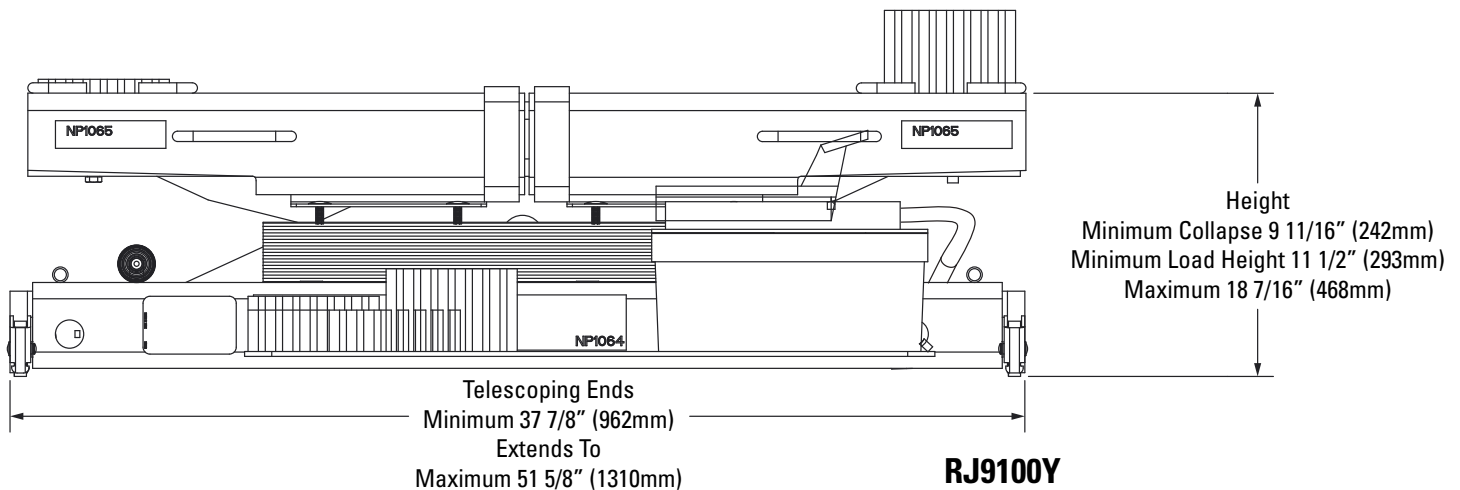

Fig. 2
- B. RJ9100Y: The rail engaging wheels shall be adjustable for an inside runway width of 37 7/8" (962 mm) minimum to a 51 5/8" (1310 mm) maximum Fig. 2.